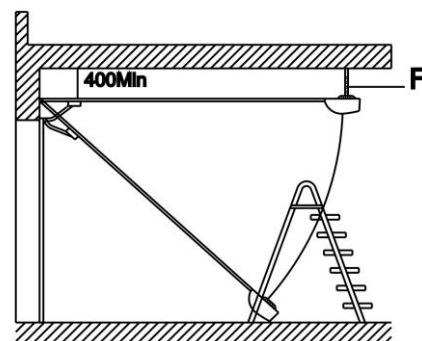

Fig. 7
Before attaching the motor brackets (E) (FIG 4) screw an inverted nut (6mm) (D) on each stud then position the brackets (E) on the studs and secure them in-place using a second 6mm-nut and then lock the brackets to the rail by tightening the inverted lock nuts (D). Connect the opener edge (G) to the doorframe or to the ceiling iron angle (F) (Fig.5), maintaining a minimum gap of 30mm from the top panel's maximum height (Fig. 6). Check measurements for drilling insert and lock the brackets F and fix the opener to the ceiling with the correct fixings (Fig. 7). Cut off any hanging brackets excess.